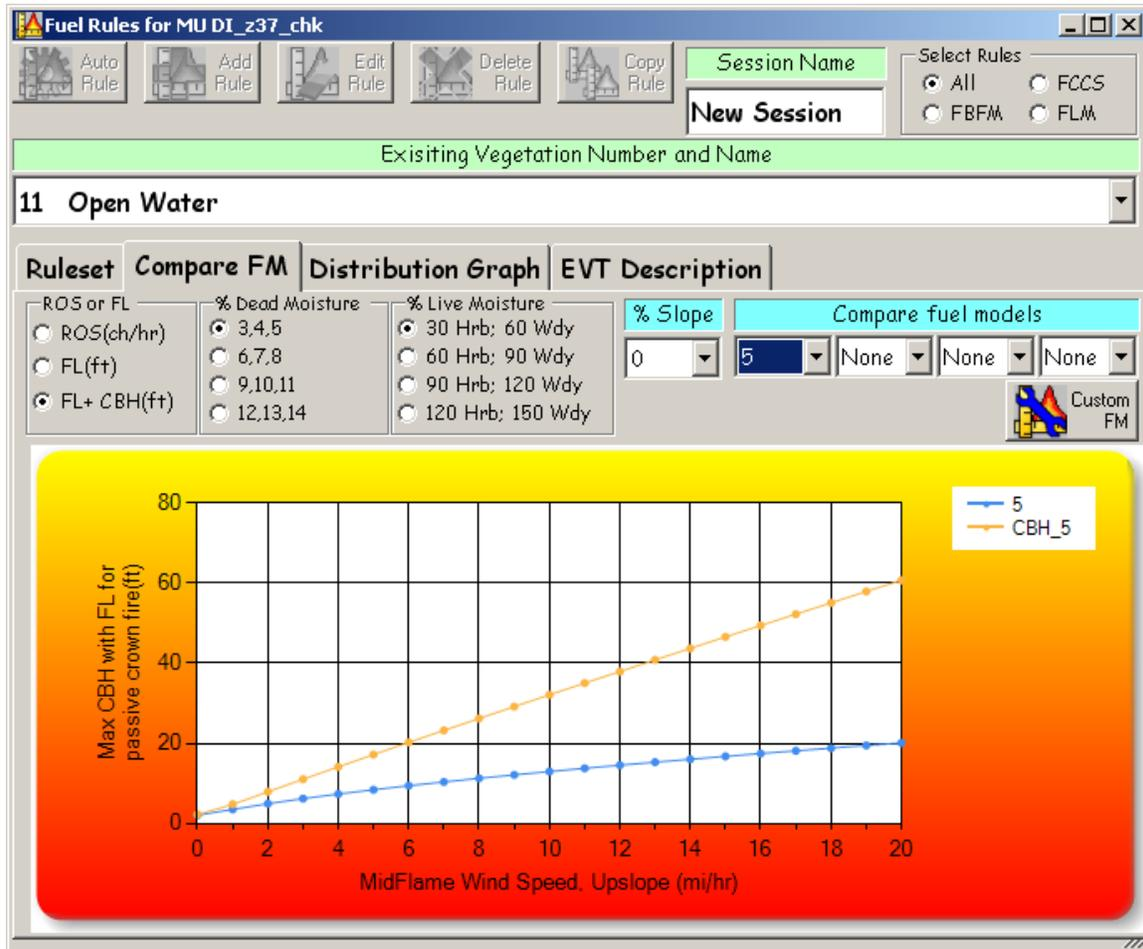

Figure 7-33. Fuel Rules screen with Compare FM page displayed.
slope. A graphic display of CBH range that would initiate crown fire behavior at various fuel moisture regimes, wind speeds, and slope is also included (fig. 7-33).
- This is accomplished by clicking the **Custom FM** icon shown above (fig. 7-33).